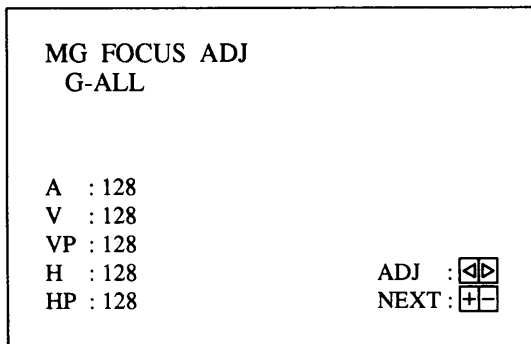

Figure 6
5. Confirm that the display shown in Figure 6 appears on screen.